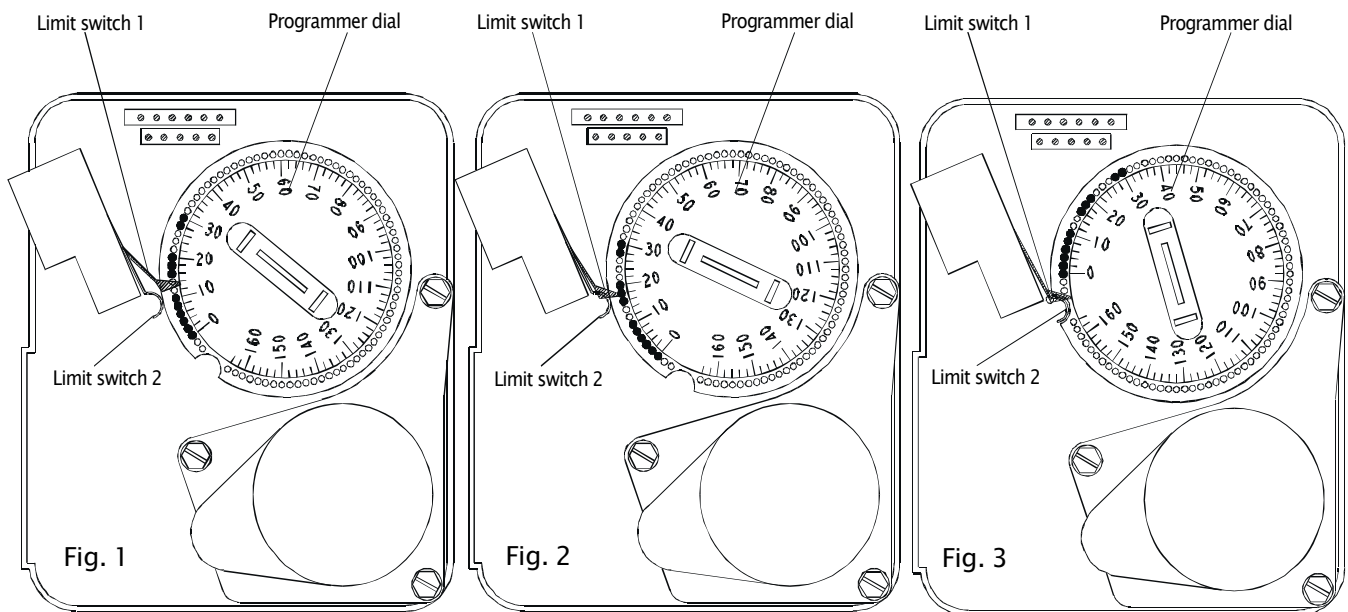

Fig. G-1: Rear of timer
- Release a manual regeneration (refer to chapter F, item 1.4).
- Flip the timer to the right and wait for 10 minutes until limit switch 1 is free (Fig. G-1, picture 1) and the actuator of the control piston has stopped.
- Wait until limit switch 1 is pressed again (Fig. G-1, picture 2) and the actuator of the control piston has stopped.
- The filter/deacidification systems are ready for operation again when the limit switches 1 and 2 are free (Fig. G-1, picture 3).